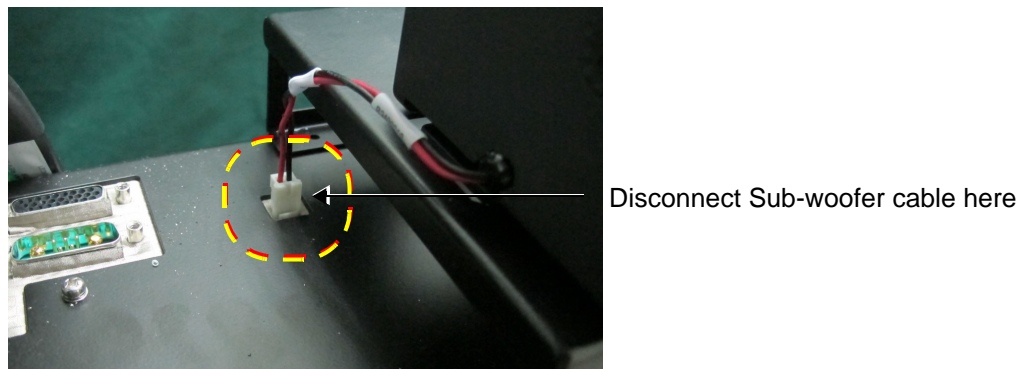

Figure 8-192 Sub-Woofer Cable Connection
- 2) Disconnect the Sub-woofer cable from the connector on the BIF - refer to Figure 8-192.
- 3.) Connect the Sub-woofer cable to the connector on the BIF - refer to Figure 8-192.